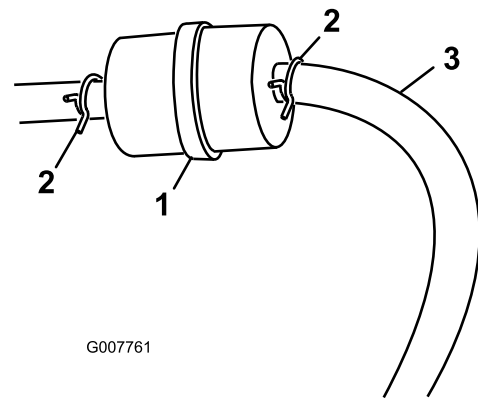

Figure 29
3. Squeeze the ends of the hose clamps together and slide them away from the filter (Figure 29).
5. Install a new filter and move the hose clamps close to the filter (Figure 29).
3. Loosen the hose clamp at the fuel filter and slide it up the fuel line away from the fuel filter (Figure 29).
4. Disconnect the fuel line from the fuel filter (Figure 29).
Note: Allow gasoline to drain into a fuel container can or drain pan (Figure 29).
5. Install the fuel line onto the fuel filter. Slide the hose clamp close to the fuel filter to secure the fuel line (Figure 29).